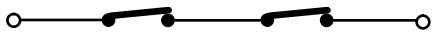

Fig. 4
N.B. If two or more safety devices have the same function (opening, closing, opening and closing, edge), the contacts must be connected to each other in series (fig. 4).
To install several safety devices, connect the N.C. contacts in series (fig. 4).
To install several STOP devices, connect the N.C. contacts in series (fig. 4).